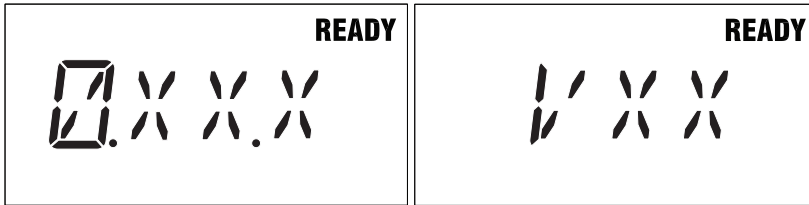

Figure 3
- To access the jumper settings you will need to press the **SET** button, the system software version will appear on the next two screens. See *Figure 3*